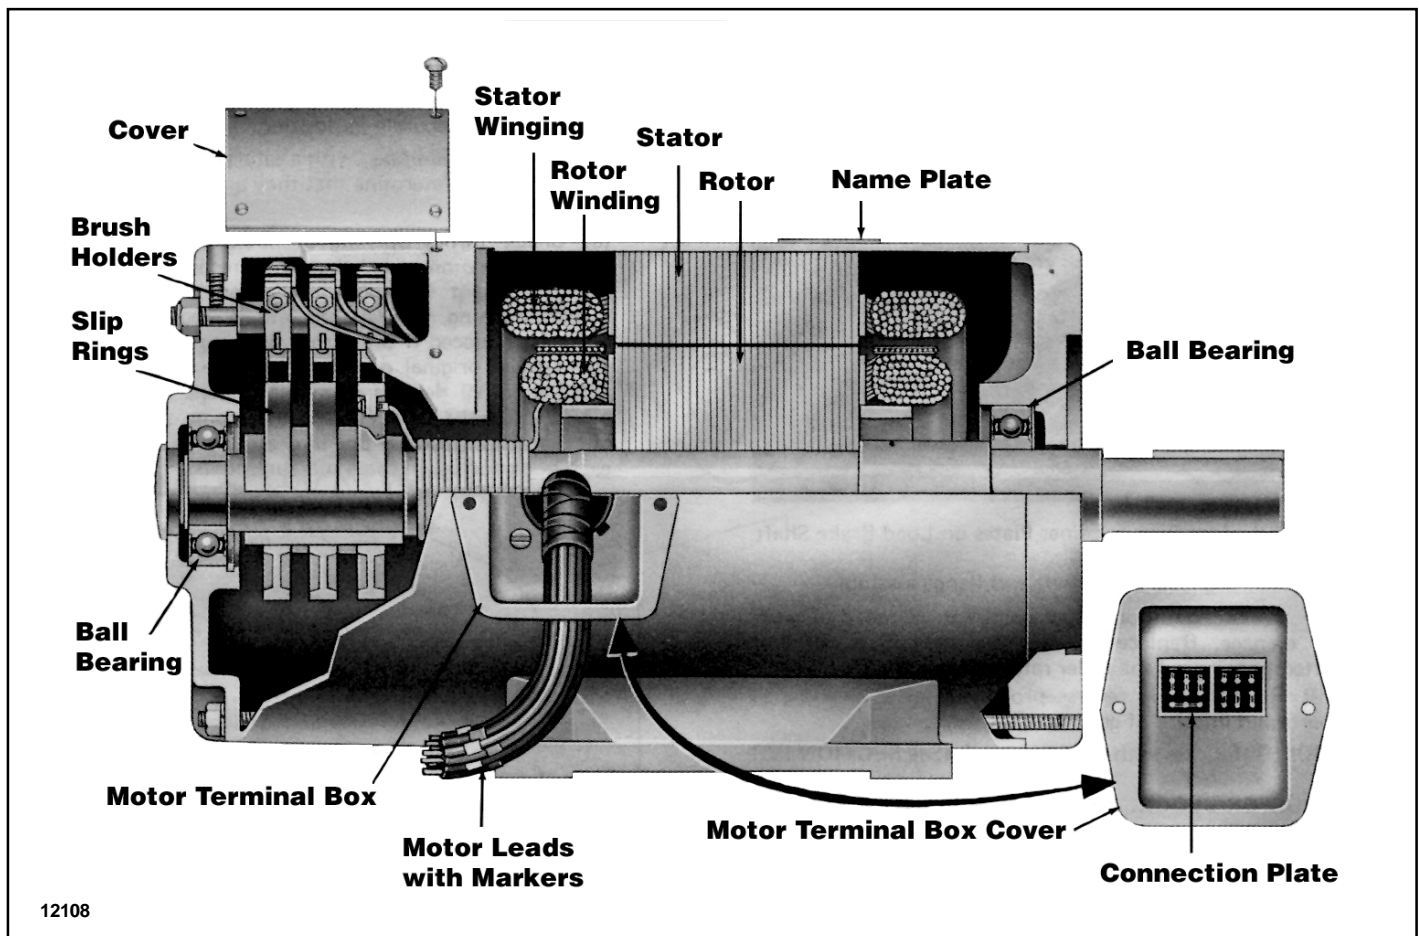
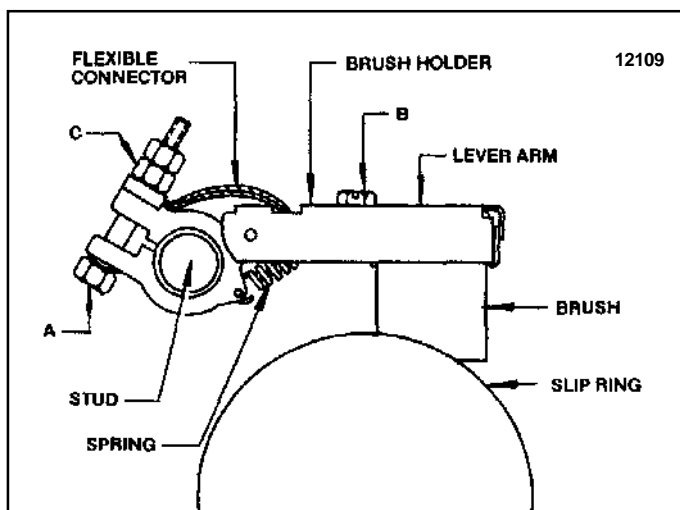

Figure 9-1. Cutaway View of Typical WOUND Rotor Motor
Figure 9-2. Brush Holder with Brushes
(2) Coils. Revarnishing windings when machines are overhauled will lengthen their life.
(3) Brushes. Figure 9-1 is a cut-away view of a typical wound rotor motor showing brushes, brush holder, slip ring, etc. Figure 9-2 shows a typical brush holder with brush. (Details may be different for motors by other manufacturers.)
To adjust brush pressure on slip ring, loosen or tighten nut A (see Figure 9-2) until concave surface of brush makes good contact with slip ring.
To replace brushes, use following steps (see Figure 9-2):
(4) Slip Rings. Slip rings of a wound rotor motor (see Figure 9-1) must be kept clean, smooth and concentric. They can be cleaned by a fine sandpaper or any commercial electrical cleaning solvent.